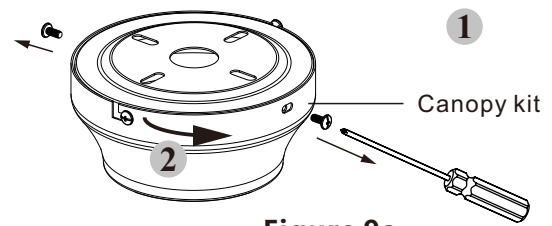

Figure 9a
a. Loosen the hex screws on the canopy kit and remove the two screws at non-slotted positions (Fig. 9a).